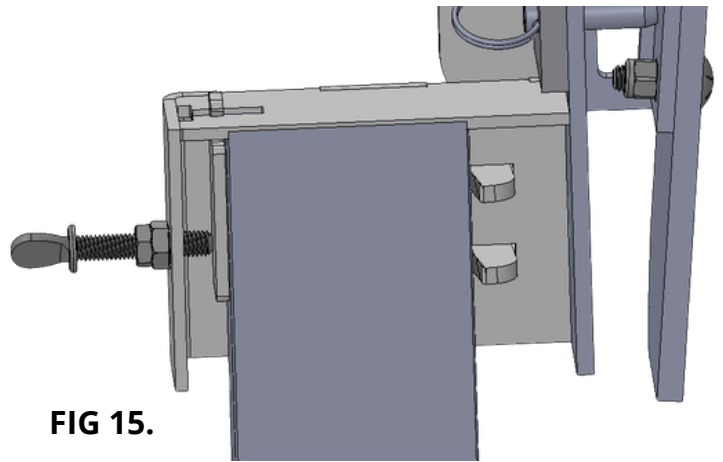

FIG 15.
- a. Note: See Fig 15 for how the 2x4 should work with the clamping feet.